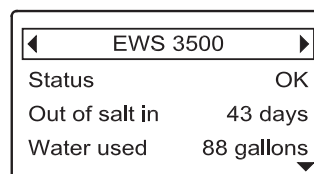

FIG. 59
1. Press the remote's LEFT (◀) or RIGHT (▶) buttons to manually advance to the **EWS 3500** status screen (See Figure 59).